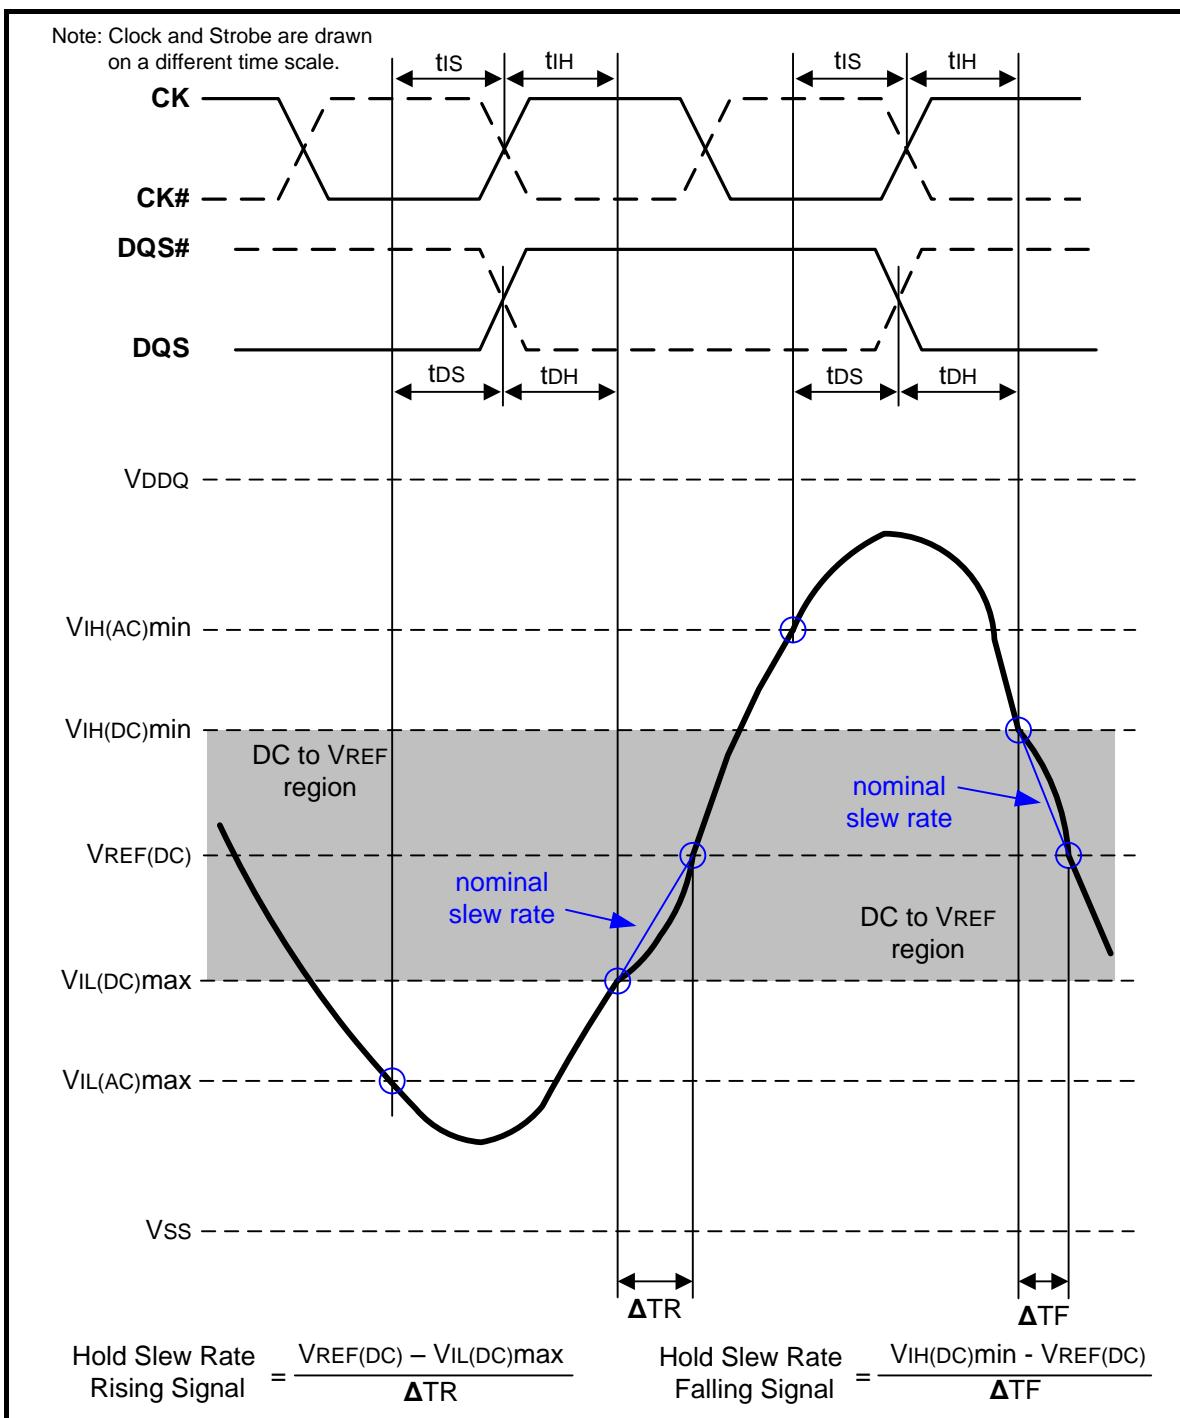
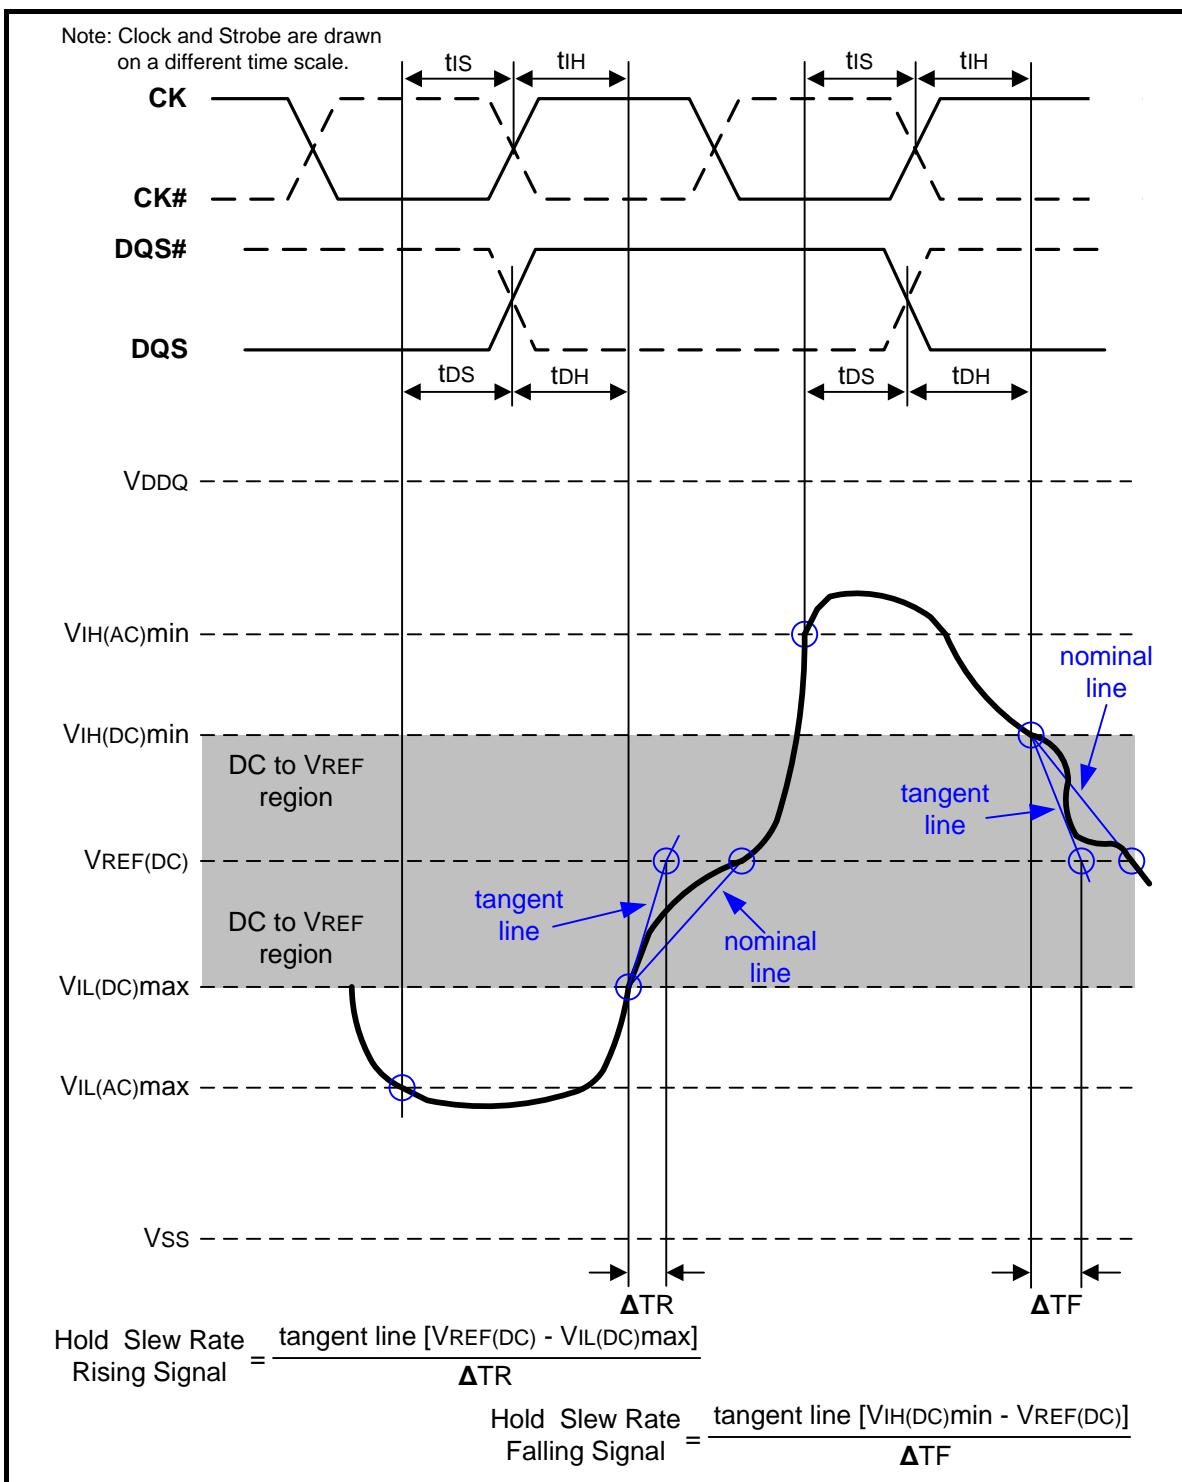

Figure 108 – Illustration of nominal slew rate for hold time  $t_{DH}$  (for DQ with respect to strobe) and  $t_{IH}$  (for ADD/CMD with respect to clock)
Figure 110 – Illustration of tangent line for hold time  $t_{DH}$  (for DQ with respect to strobe) and  $t_{IH}$  (for ADD/CMD with respect to clock)
Hold (tIH) nominal slew rate for a rising signal is defined as the slew rate between the last crossing of VIL(DC)max and the first crossing of VREF(DC). Hold (tIH) nominal slew rate for a falling signal is defined as the slew rate between the last crossing of VIH(DC)min and the first crossing of VREF(DC). If the actual signal is always later than the nominal slew rate line between shaded 'DC to VREF(DC) region', use nominal slew rate for derating value (see Figure 108). If the actual signal is earlier than the nominal slew rate line anywhere between shaded 'DC to VREF(DC) region', the slew rate of a tangent line to the actual signal from the DC level to VREF(DC) level is used for derating value (see Figure 110).
Hold (tDH) nominal slew rate for a rising signal is defined as the slew rate between the last crossing of VIL(DC)max and the first crossing of VREF(DC). Hold (tDH) nominal slew rate for a falling signal is defined as the slew rate between the last crossing of VIH(DC)min and the first crossing of VREF(DC) (see Figure 108). If the actual signal is always later than the nominal slew rate line between shaded 'DC level to VREF(DC) region', use nominal slew rate for derating value. If the actual signal is earlier than the nominal slew rate line anywhere between shaded 'DC to VREF(DC) region', the slew rate of a tangent line to the actual signal from the DC level to VREF(DC) level is used for derating value (see Figure 110).